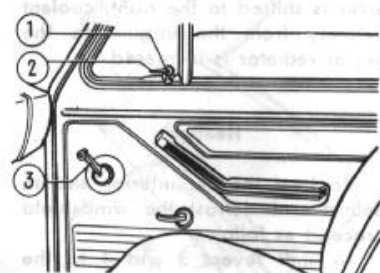

Fig. 8. Front Door Swivelling Vent Window and Roll-Down Window: 1 — button; 2 — handle; 3 — window regulator handle
- through the open swivelling vent windows; to open, depress button 1 (Fig. 8), and turn handle 2;